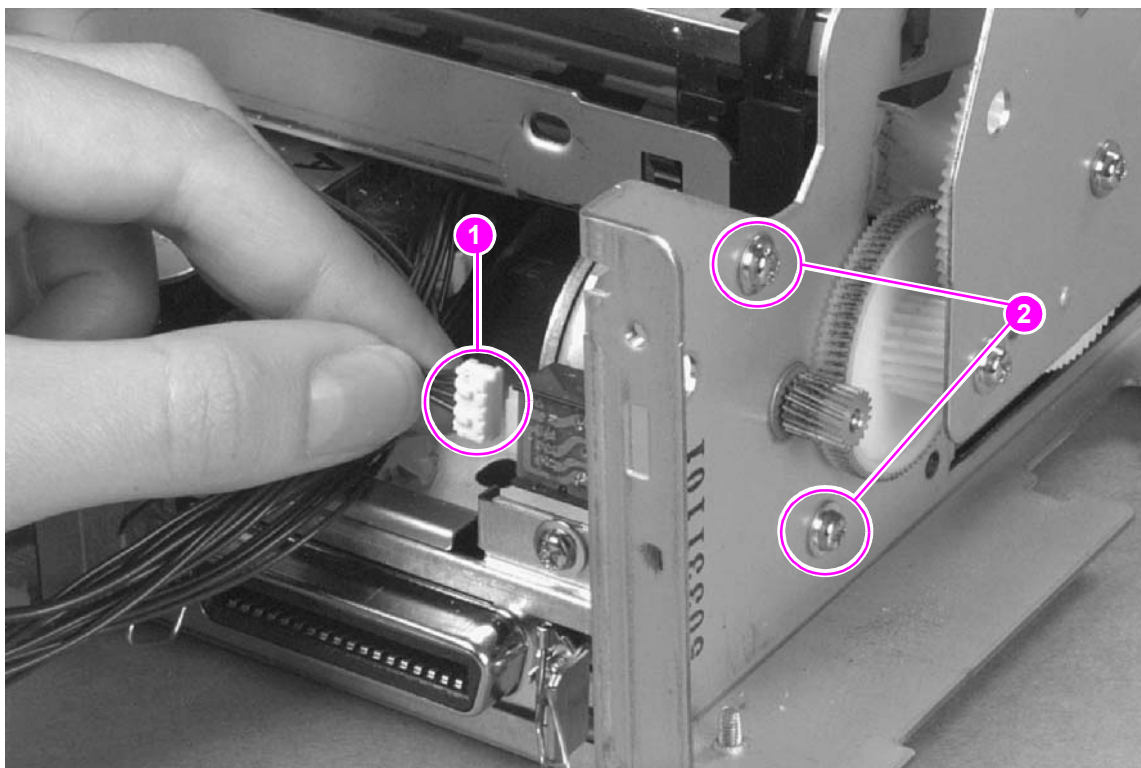

Figure 6-39 Motor removal
- 2 Remove the motor connector (Figure 6-39, callout 1).
- 4 Remove the motor screws (Figure 6-39, callout 2).
- 2 Disconnect the motor connector from the motor (Figure 6-39, callout 1).